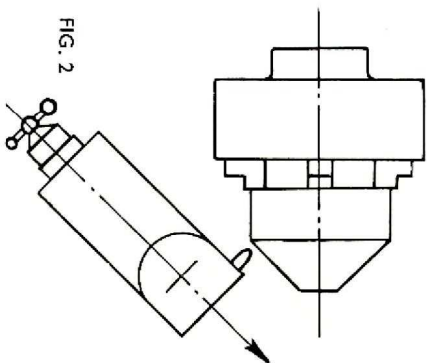

FIG. 2
Methods of Taper Turning and Boring. Three general methods are applicable. (1) As shown in fig. 2, by means of swivelling the compound rest to the angle required for either boring or turning. This method is by hand traverse of the tool, and is limited to the